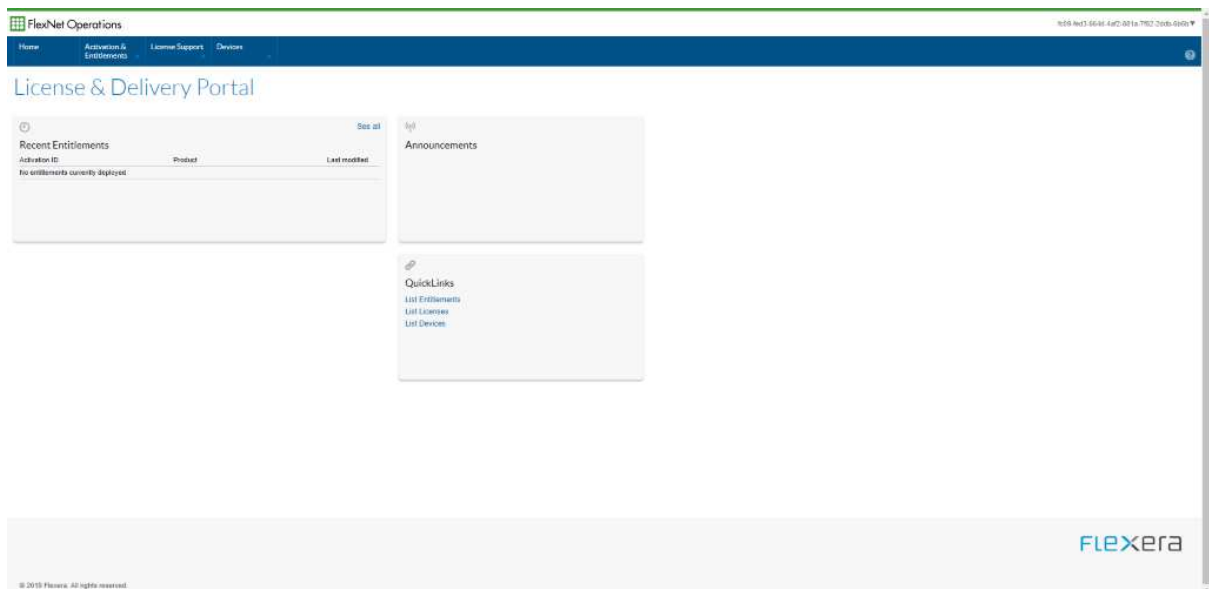

Figure 9 - License and Delivery Portal.
15. *Select -> Devices -> Offline Device Management* (Figure 9).